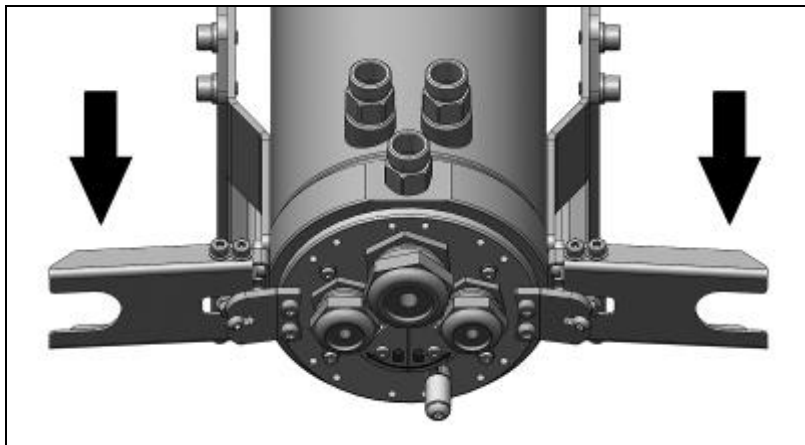

Figure 36: Unlocking of the hinge
5. Dismount in reverse order (**Figure 36**).